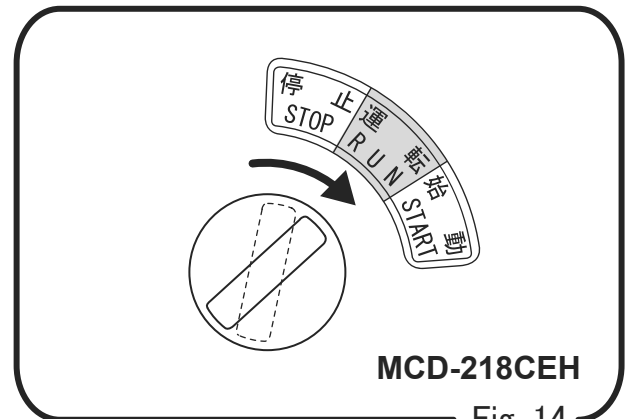

Fig. 14
Insert the key into the key switch. Turn the key to "RUN" position. (Fig.14)
8.1.4. With electric starter: (Fig. 14)